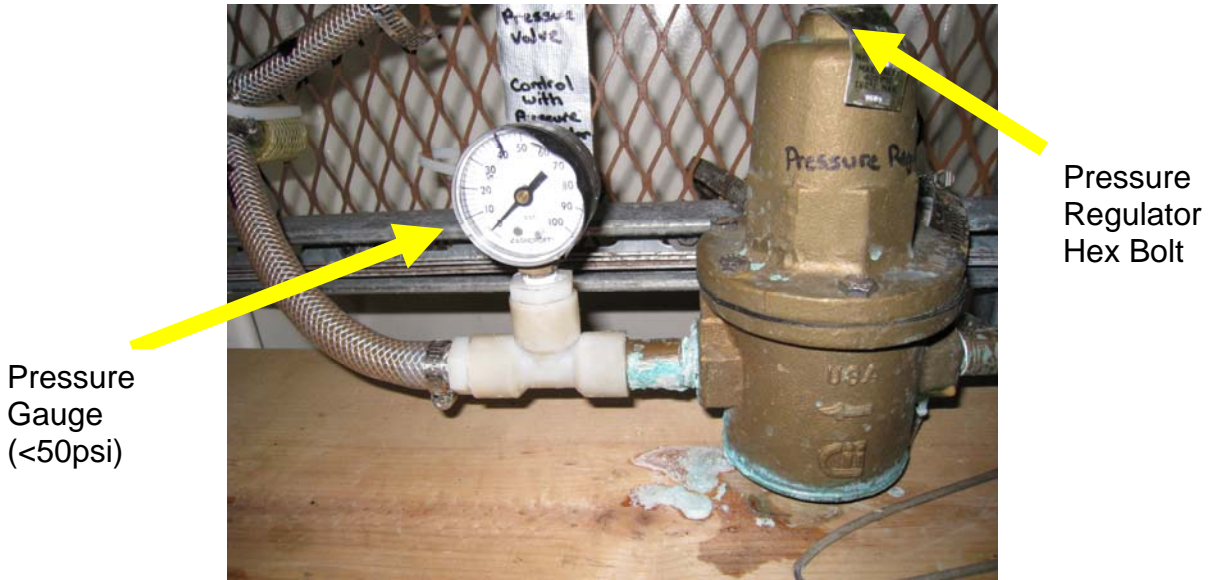
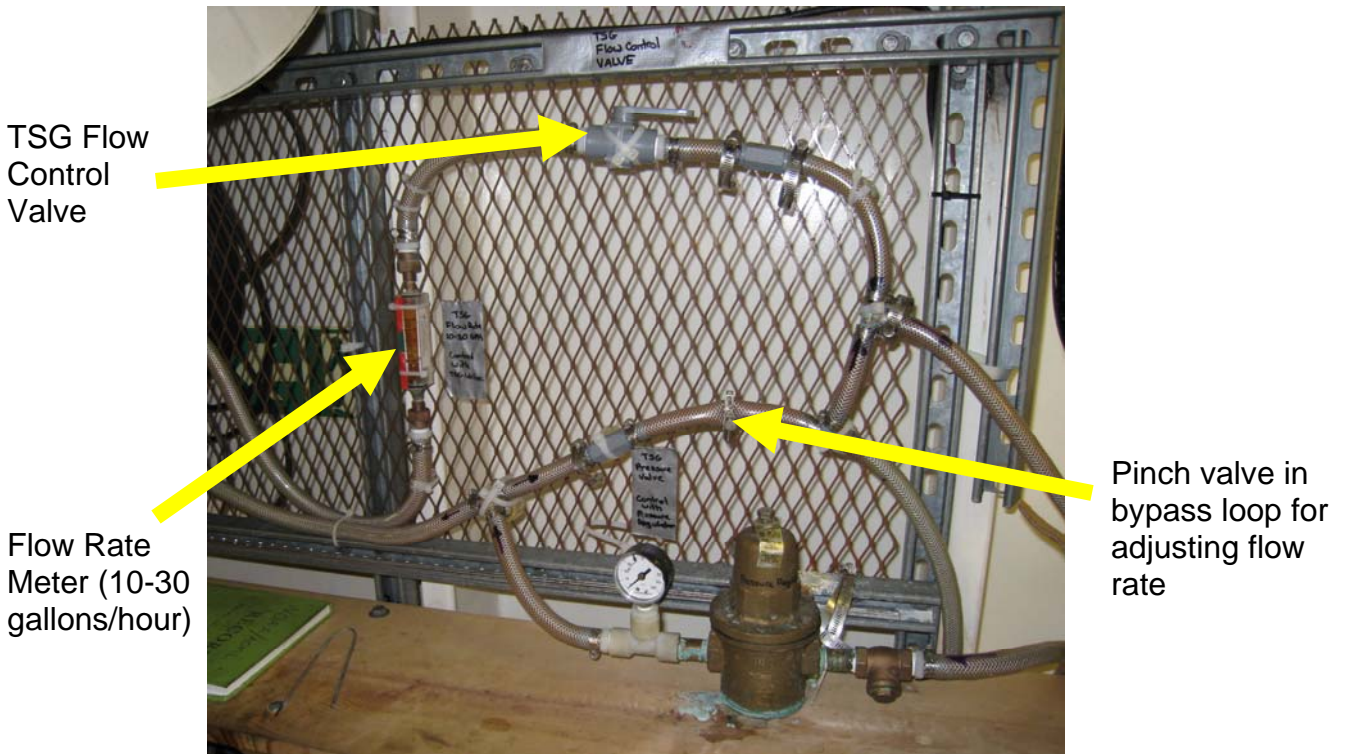

Figure 4. Pressure Gauge and Regulator
Figure 5. Flow and Pressure System
3. Verify that the flow and pressure are within the required limits. The pressure should read less than 50 psi (approximately 3 bars). The pressure can be regulated by turning the hex bolt on top of the pressure regulator (Fig. 4).
- The flow rate should read between 10 and 30 gallons per hour. The flow rate can be adjusted in two places. First, the PVC ball valve labeled "TSG Flow Control" and second, the pinch valve in the bypass loop. Under typical conditions the pump will push more water than is safe for the TSG so the flow must be regulated in some way (Fig. 5).
2. Log the date, time, pressure and flow rate in the green log book provided. Verify that the flow and pressure are within the required limits. The pressure should read less than 50 psi (approximately 3 bars). The pressure can be regulated by turning the hex bolt on top of the pressure regulator (Fig. 4). The flow rate should read between 10 and 30 gallons per hour. The flow rate can be adjusted in two places. First, the PVC ball valve labeled "TSG Flow Control" and second, the pinch valve in the bypass loop (Fig. 5). Under typical conditions the pump will push more water than is safe for the TSG so the flow must be regulated in some way.